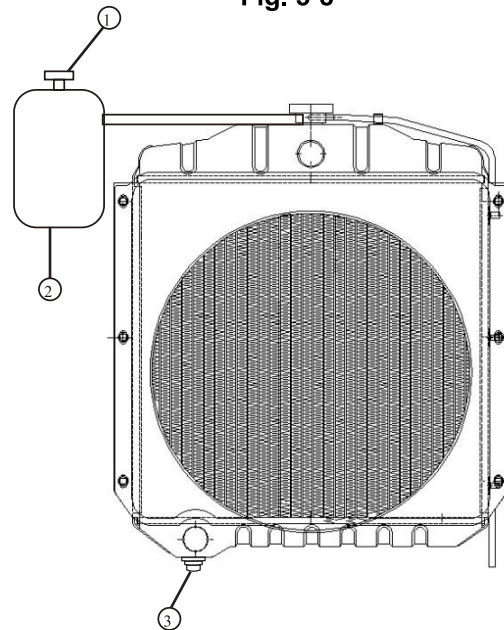

Fig. 5-9
Cooling circuit expansion reservoir (1) (Fig. 5.9)
Remove the filler cap (1) from the expansion reservoir (2) (Fig. 5-9) to make coolant draining easier.
Shut off the drain plugs and fill up the system with coolant fluid until the level reaches 20-25 mm below the edge of fill plug (1) (Fig. 5-9) of radiator.